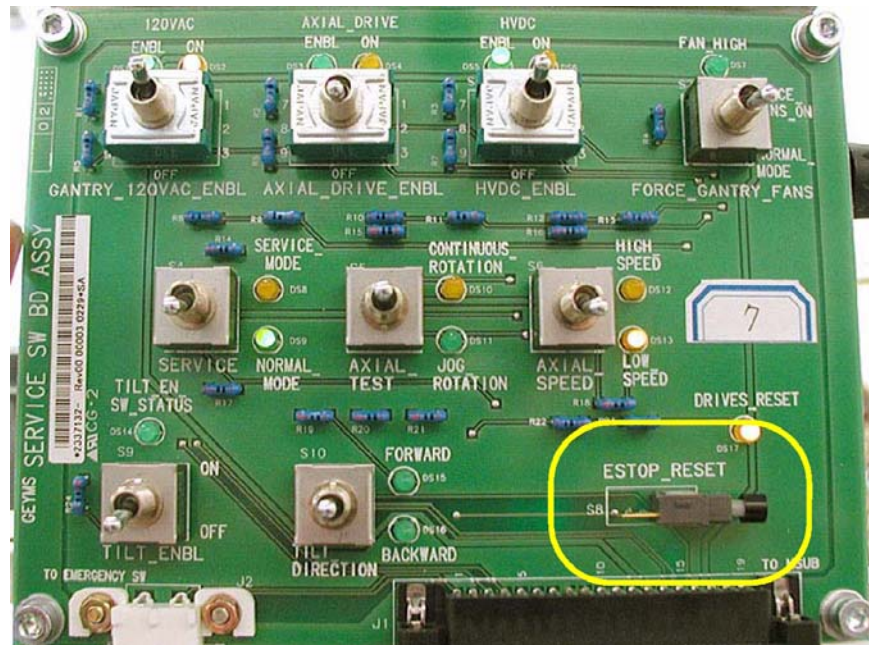

Figure 4-20 Service Switch Panel
- 5.) Push the Service Switch Panel reset button. (See Figure 4-20)